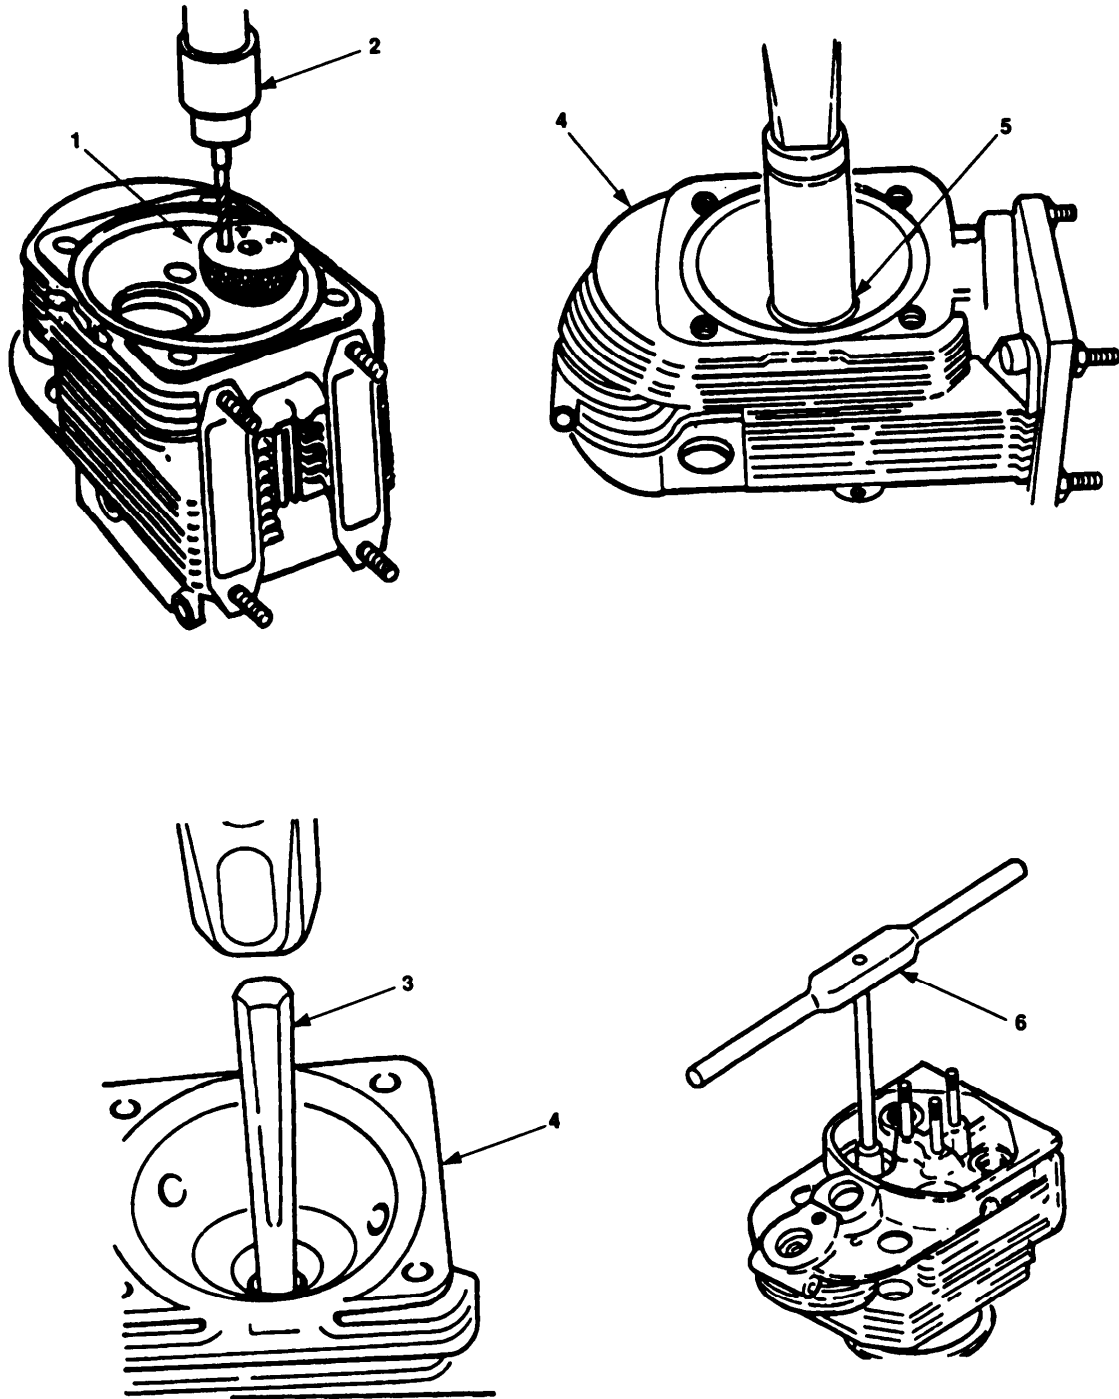

Figure 6-5. Valve Seat Drilling.
- (1) Place mandrel (figure 6-5, 1) on valve seat and insert guide through mandrel into valve stem. Tighten guide so that mandrel is firmly in place.